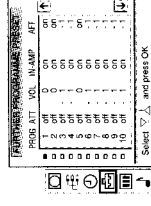

Fig. 18
- 4 Select »Further Programme Preset« with Δ + or ∇ - and press OK. The FURTHER PROGRAMME PRESET menu appears (See Fig. 18).